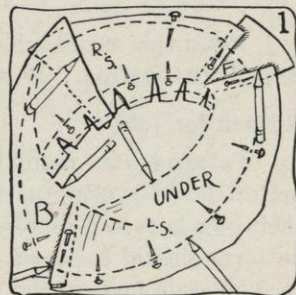

FIG. 1.
- a. Put a pencil mark exactly at headsize of pattern (see Figure 1).
- b. Put a pencil mark at edgewire of pattern (see Figure 1).
- c. Mark the lap with a pencil (see Figure 1).
- d. Mark with a pencil any gussets, pleats, or piecings of any kind (see Figure 1).
- e. Mark front, back, left side, and right side of pattern—*F*, *B*, *L.S.*, *R.S.* (see Figure 1).
- f. Write *under* on the part of the paper pattern that faces you (meaning under facing) (see Figure 1). This is necessary because, if both sides of brim are not exactly alike and you turn the pattern upside down, the cut material will not fit, nor will a frame that is made on it have the correct line; therefore, be **very careful not to reverse the pattern**.